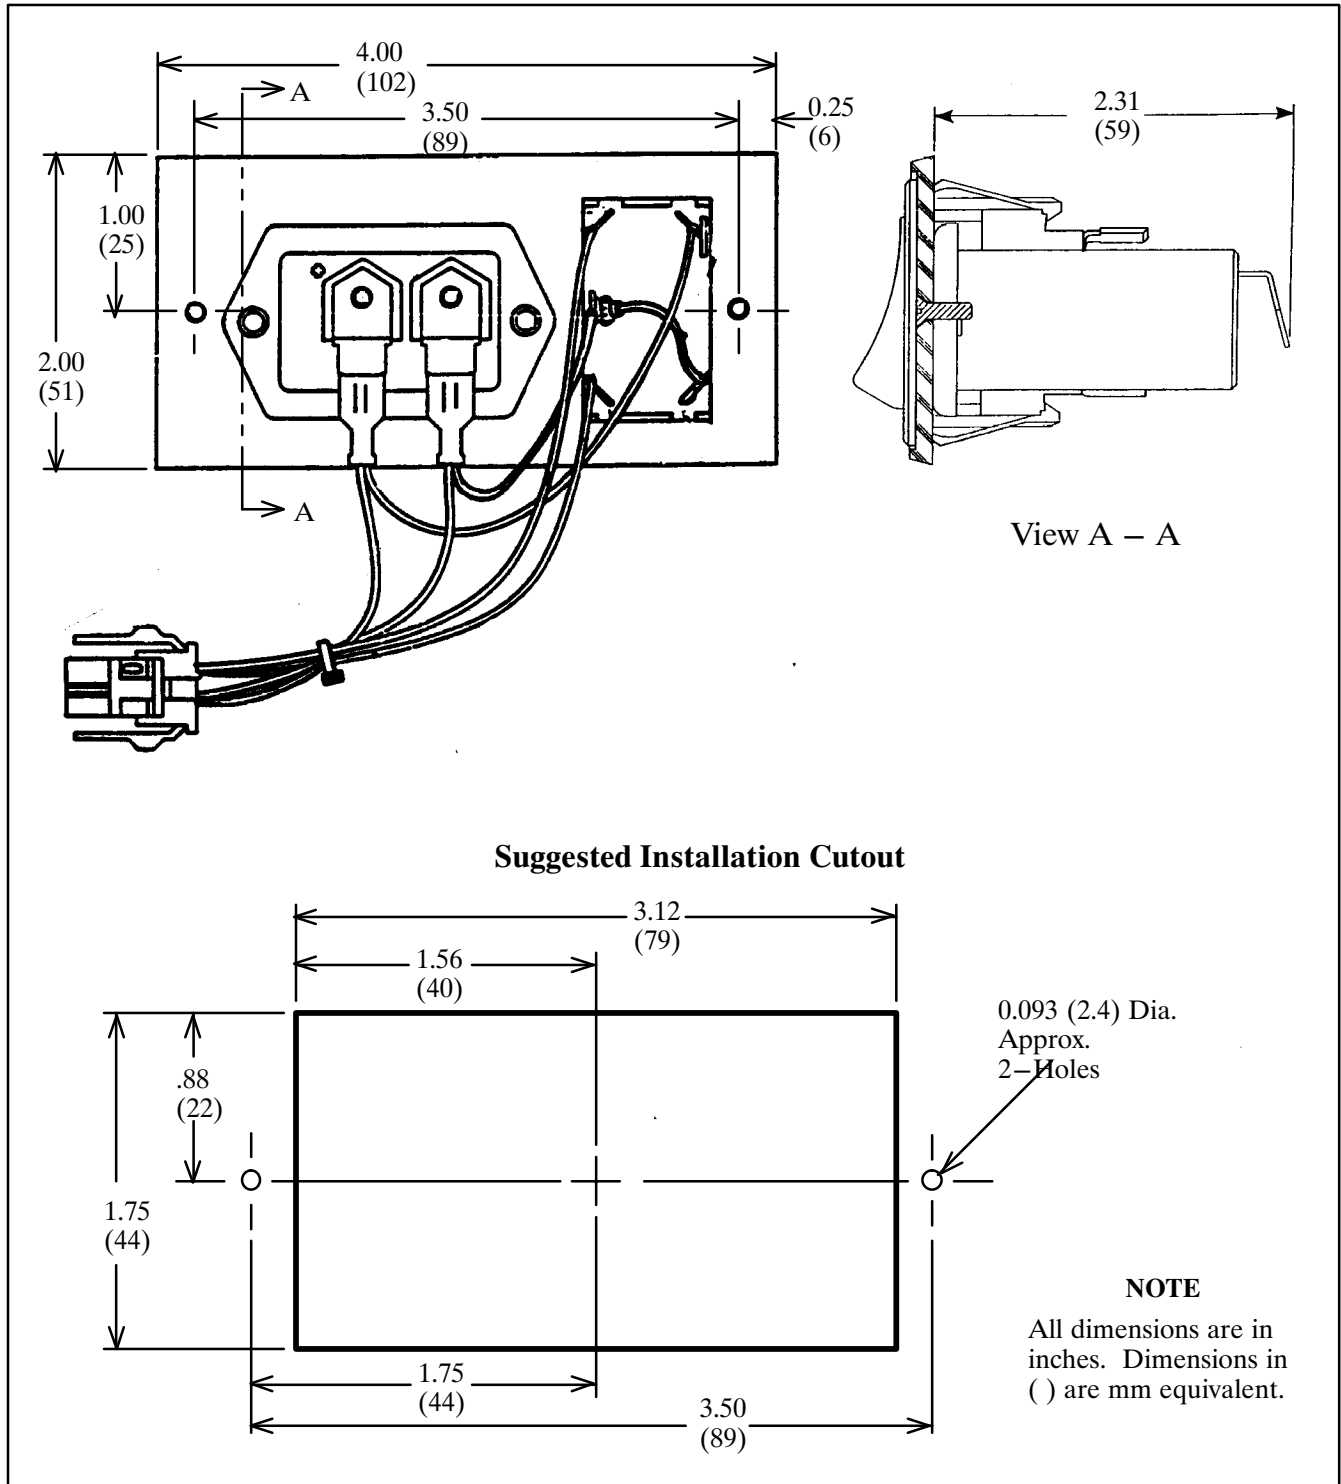

Figure 2. Mounting Dimensions
3. See Figure 2 for mounting dimensions. The minimum clearance beyond the panel is 2-5/16 in. (59 mm). For electrical connections, see Figure 3.